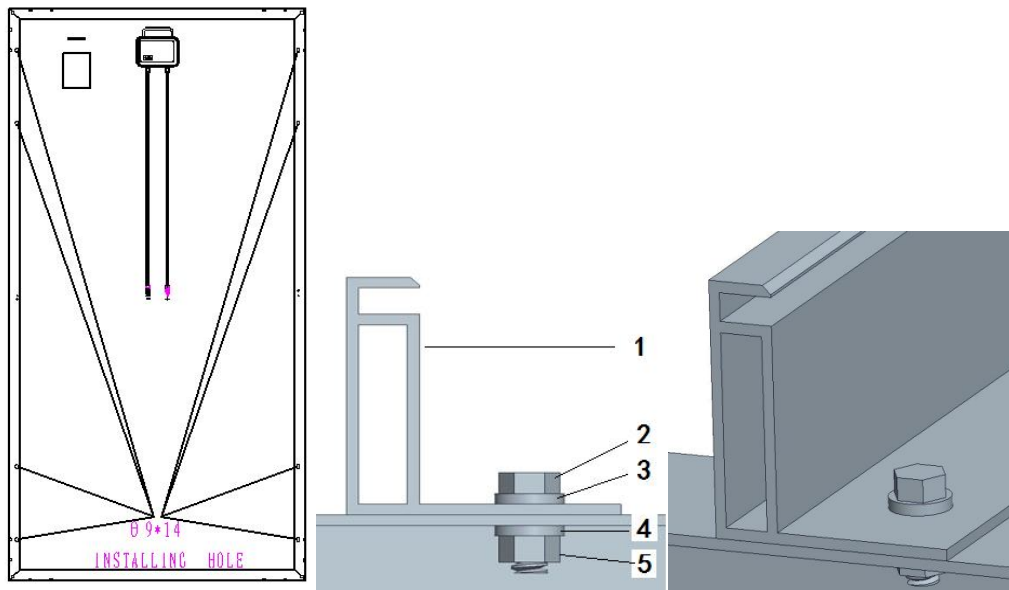

Figure1.Module installed with Bolt fitting method
- Secure the module in each fixing location with an M8mm bolt and a flat washer, spring washer and nut as shown in Figure 1 and tighten to a torque of 16 Nm.